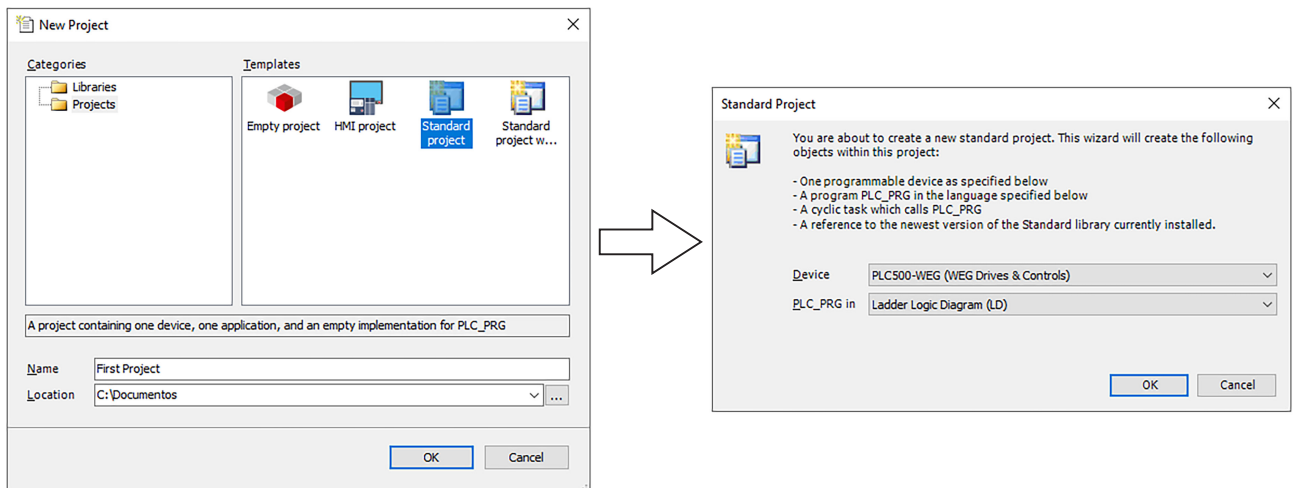

Figure 14.3: Creating a new project
- 7) Create a new project in **File -> New Project**. Select **Standard Project**, define the name and location to be saved. Select the PLC500-WEG Device and the desired programming language, as shown in Figure 14.3 on page 14-3.